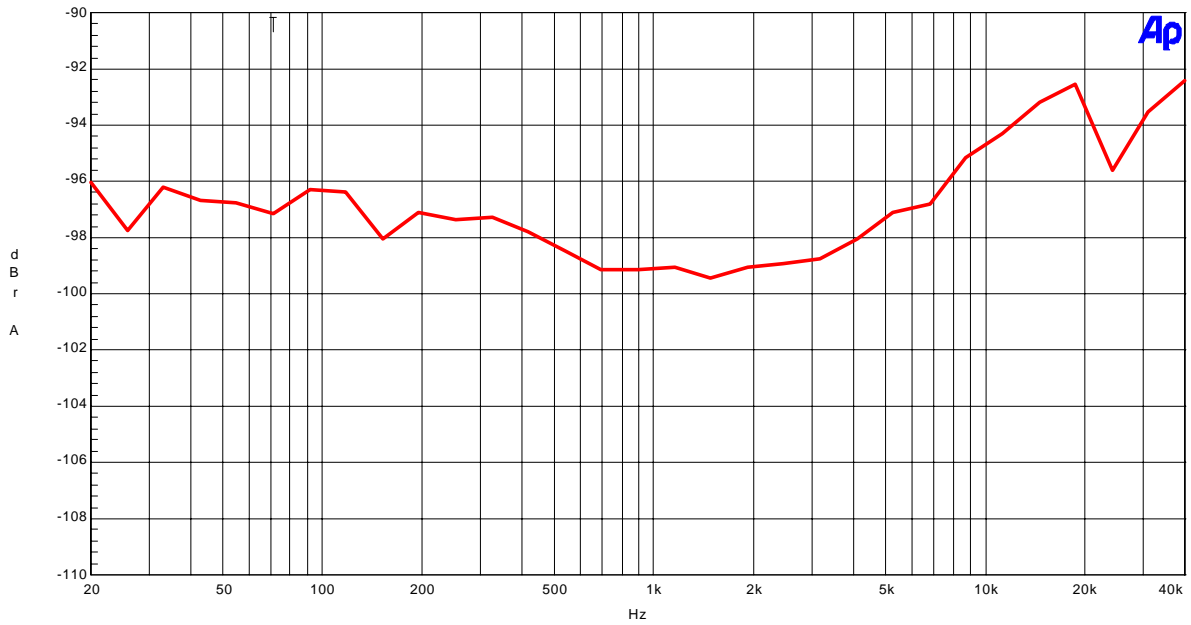

Figure 16. THD+N vs fin (fs=96kHz; 0dBFS input)
- Figure 16. THD+N vs fin (0dBFS input)